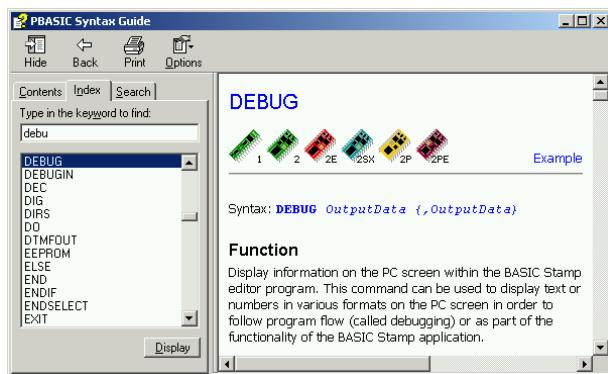

Figure 1-46
- ✓ Type `DEBUG` in the field labeled *Type in the keyword to find:* (Figure 1-46).